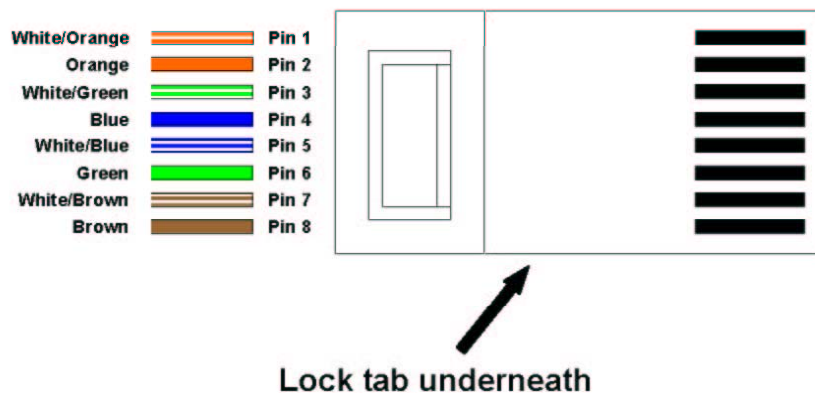

Figure 8 - RJ45 Pin Connection
Step 3: Arrange conductors as shown in Figure 8 and cut to length